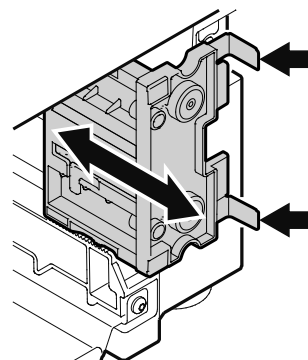

Figure 28
5. The front edge of the brackets is flush with the front of the ventilation grille. Adjust the supports accordingly (**Figure 28**).